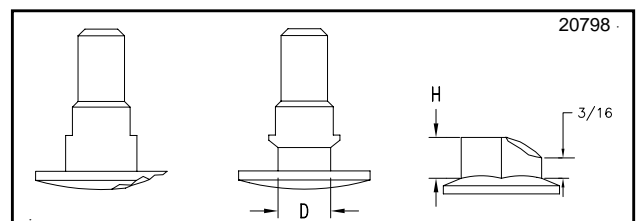

Figure 4-2
- Refer to Figure 4-2:
4. Replace bolts when diameter (D) of bolt shoulder is less than 5/8”.
5. Replace nuts when height (H) of nut is less than half of original height of 3/8”.